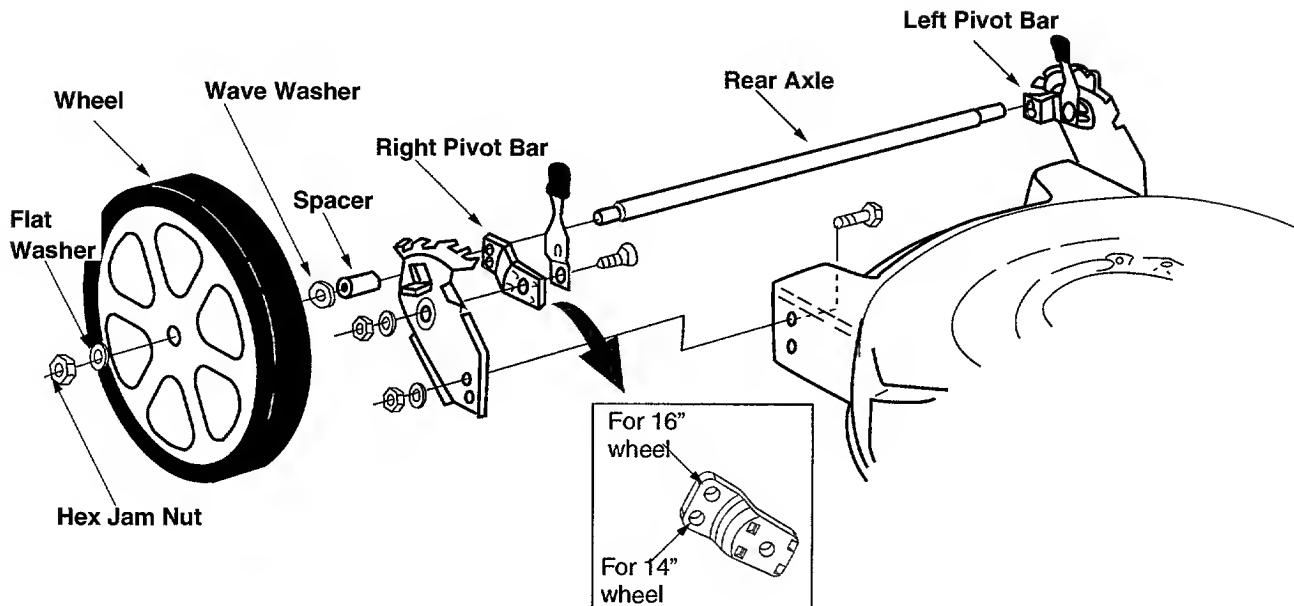

FIGURE 7
IMPORTANT: There are two holes on the pivot bar. You will have to attach the axle shaft through the top hole of the right pivot bar in case of 16" diameter wheels, and through the bottom hole in the case of 14" diameter wheels. Use the same corresponding holes on the left pivot bar. See Figure 7 inset.
- Rotate the axle shaft until first tab on the right side of the axle shaft clears the hole in the right pivot bar. Rotate further until second tab on the right side of the axle shaft locks into the hole in the same pivot bar. The tab on the left side of the axle shaft should hit on the surface of the left pivot bar. See Figure 7.
- Place wheel assembly on end of axle. Secure with one flat washer and one hex jam nut. See Figure 7. Tighten securely.